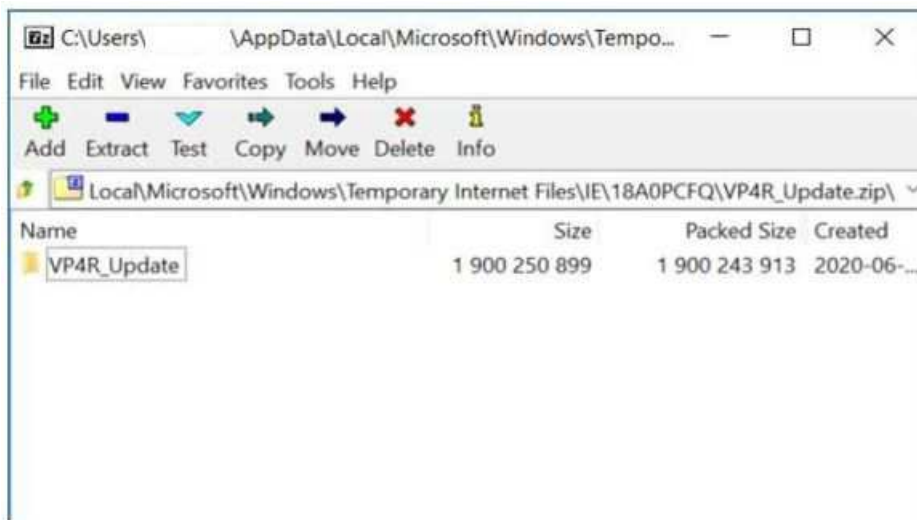

Fig. 4
- Unzip the file to the root folder of USB flash drive. File should not be within a zip folder. Your USB file should look like (Fig. 4) when you open it.